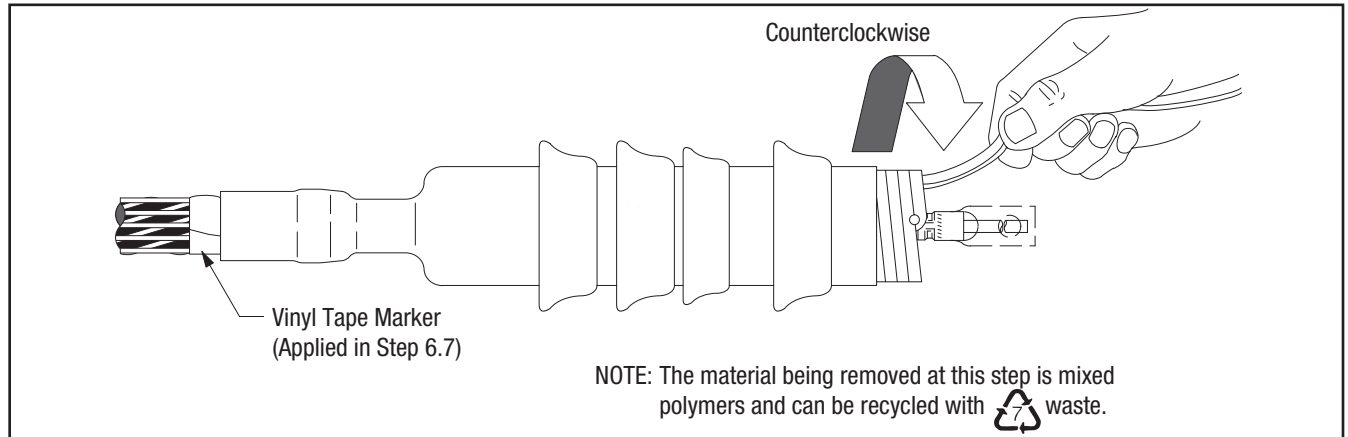

Figure 10
- 9.1 Slide the termination body onto the cable and remove core. Make sure the termination body (not the core) is butted up to the edge of the vinyl tape marker previously applied (Figure 10). Pull the core while unwinding, counterclockwise, starting with the loose end (Figure 10). Be sure to alternate the pulling and unwinding actions (pull-unwind-pull-unwind-etc.) to help prevent the core material from binding up as the core is being removed. (Figure 10).